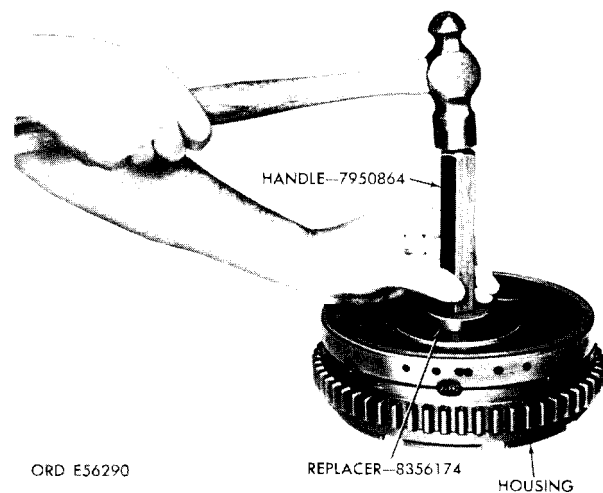

Figure 5-69. Installing high-range clutch housing bushing using handle 5120-316-9182 (7950864) and replacer 5120-572-8658 (8356174).
(1) If bushing (23) was removed, install new bushing using replacer 5120-572-8658 and handle 5120-316-9182 (fig. 5-69).